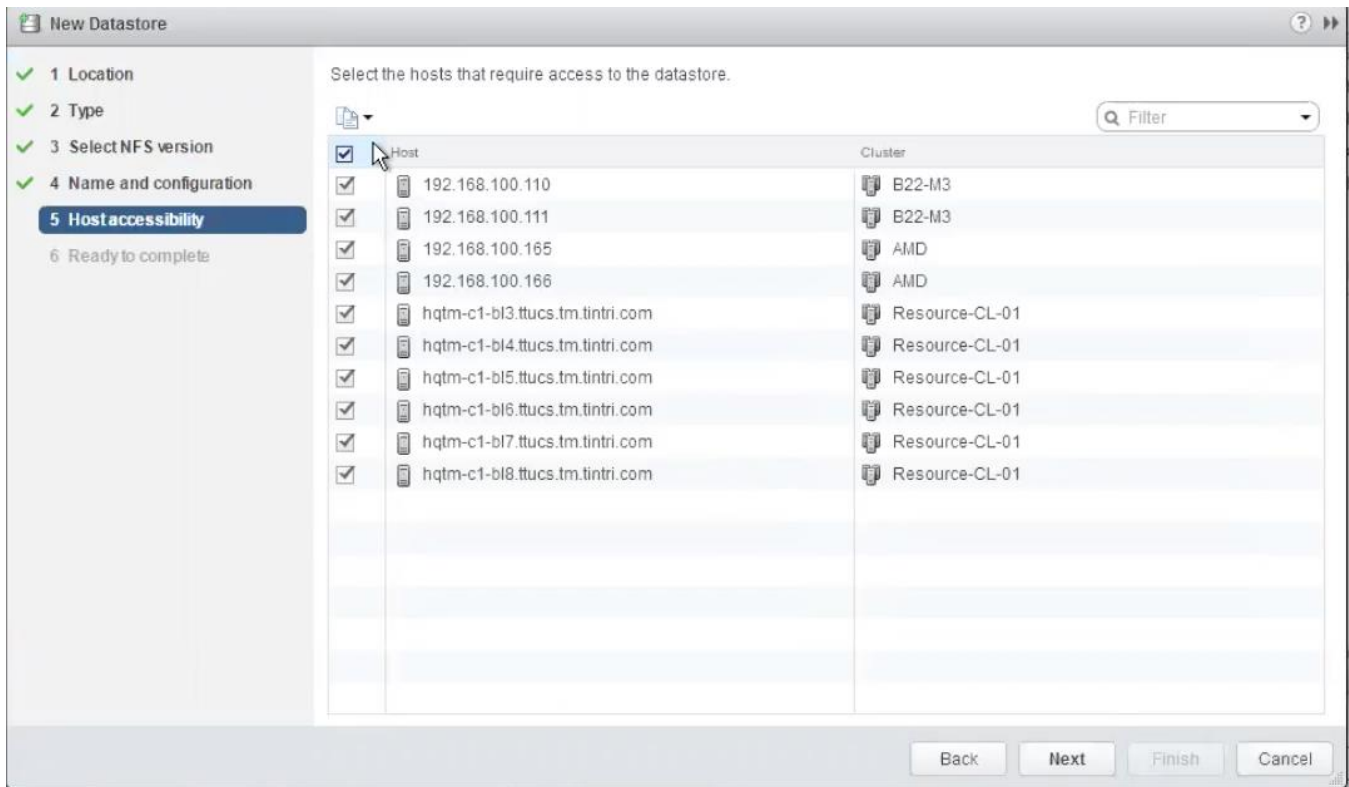

Figure 21 – Selecting multiple hosts in the New Datastore wizard.
4. If you chose “New Datastore” from the A cluster or the whole data center, you will be prompted for “Host accessibility”. During the host accessibility step, select every host you wish to be able to access the new VMstore and then complete the wizard. (See Figure 21)